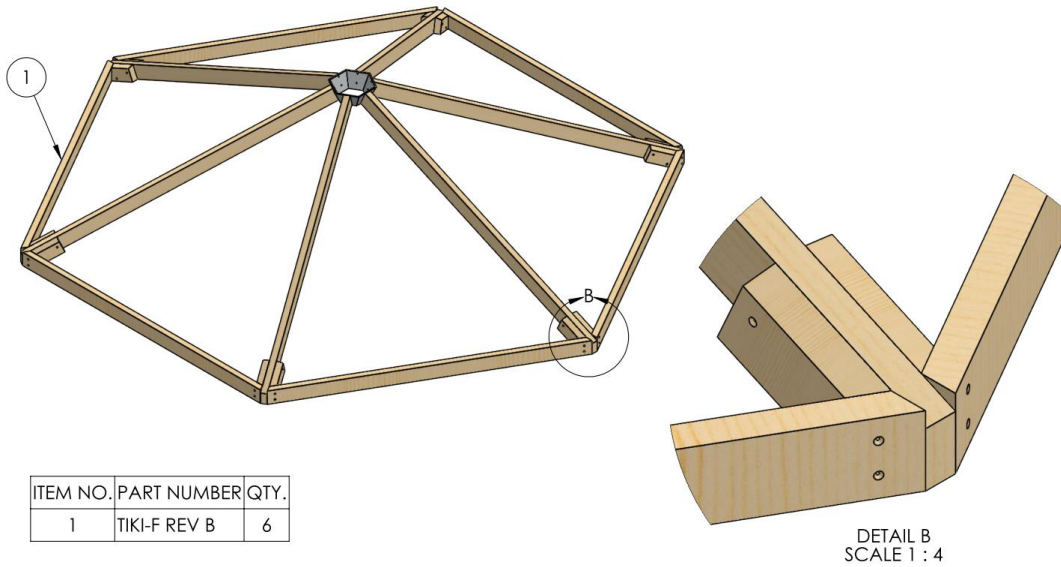

Figure 11
12) Attach all fascia boards to form the hexagon shape of the roof, align the bottoms of the boards and secure with two 3" screws(Bag #1) per end. See Figure 11 for details.